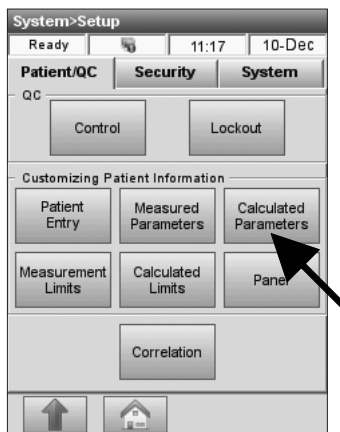

Fig. 3-22 Calculated Parameters
2. On the **<Patient/QC>** tab, press **<Calculated Parameters>** (Fig. 3-22).